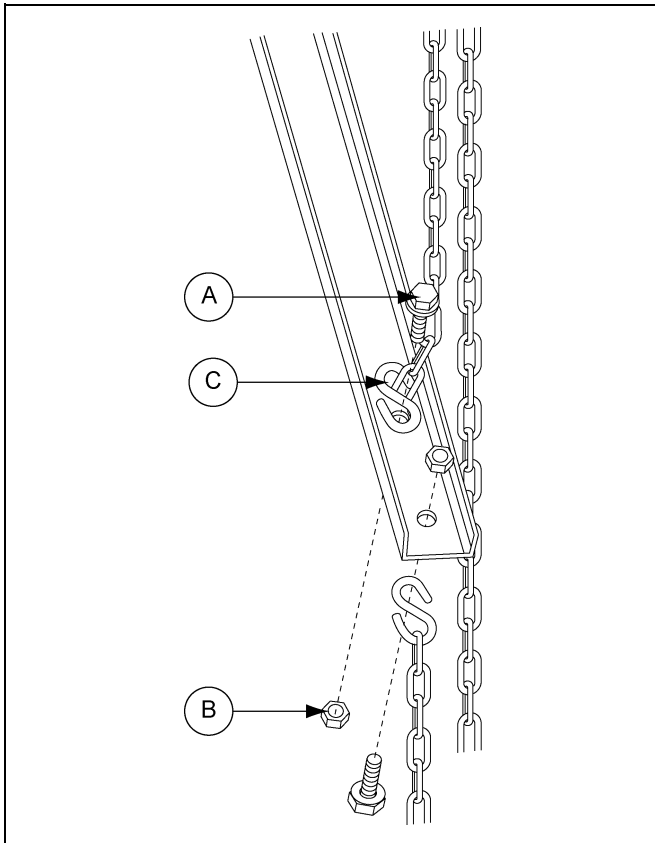

Figure 4 Chain Attachment Detail
STEP 4: Crimp the S-hooks (C) to attach them to the chain and bolt. (See Figure 4.)